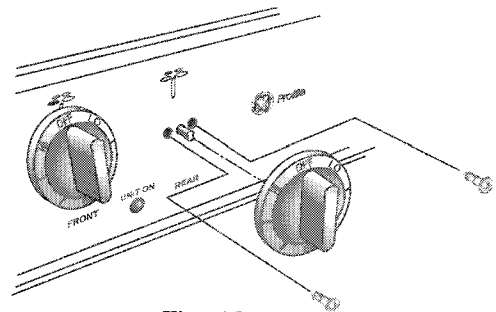

Fig. 12
2. Place the control panel in the service position. (Fig. 12)
4. Pull the control knob from the infinite heat control shaft. (Fig. 12)
5. Remove the two (2) screws securing the infinite heat control to the control panel. (Fig. 12)